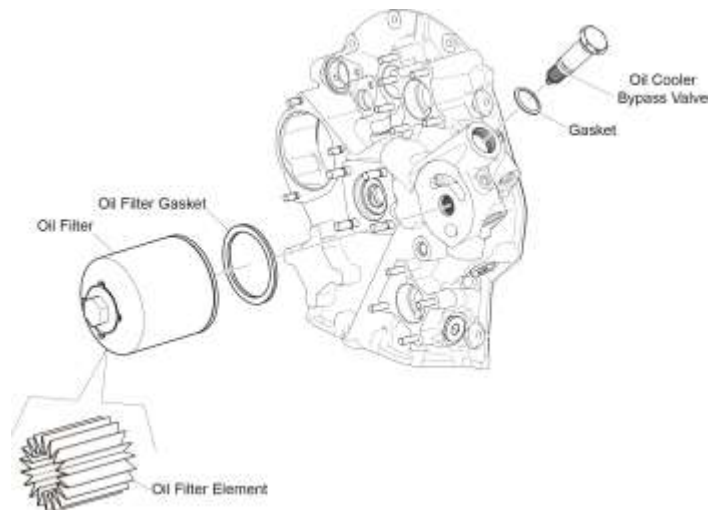

Figure 5
C. Remove the oil filter (Figure 5) from the oil filter base.
F. Install the new oil filter on the oil filter base as shown in Figure 5.